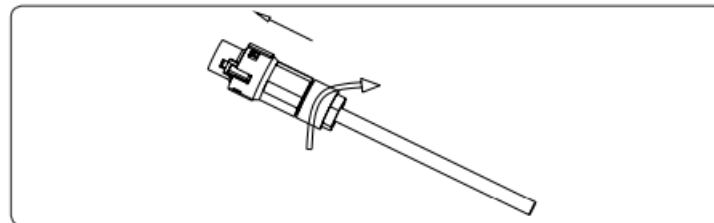

Figure 4-17
4. According to the arrow direction push the threaded sleeve to make it connected with the AC terminal head and then rotate the cable gland clockwise to lock it, as shown in figure 4-17: